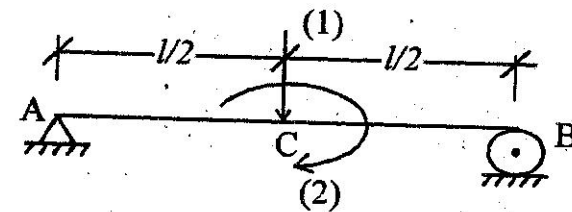

Figure-3
(i) For the simply supported beam of length  $l$  shown in figure-3 below, derive the expression for flexibility matrix of order 2 corresponding to co-ordinates (1) i.e. transverse and (2) i.e. flexural where flexural rigidity  $EI$  is uniform throughout the length of the beam.